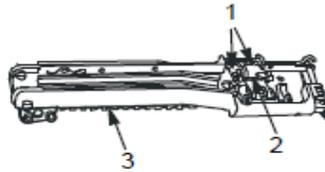

Figure 13. Cover and Feed Mechanism.
4. Check for damaged, weak, or worn operating parts in cover and feed mechanism assembly (Figure 13, Item 3). Replace as needed (WP 0011).
5. Check for broken, improperly assembled, or missing springs under the cartridge retaining pawls (Figure 13, Item 1). Replace as needed (WP 0011).
6. Check for excessive wear (rounded) on feed pawl assembly (Figure 13, Item 2) and cartridge retaining pawls (Figure 13, Item 1). Replace as needed. (WP 0011).